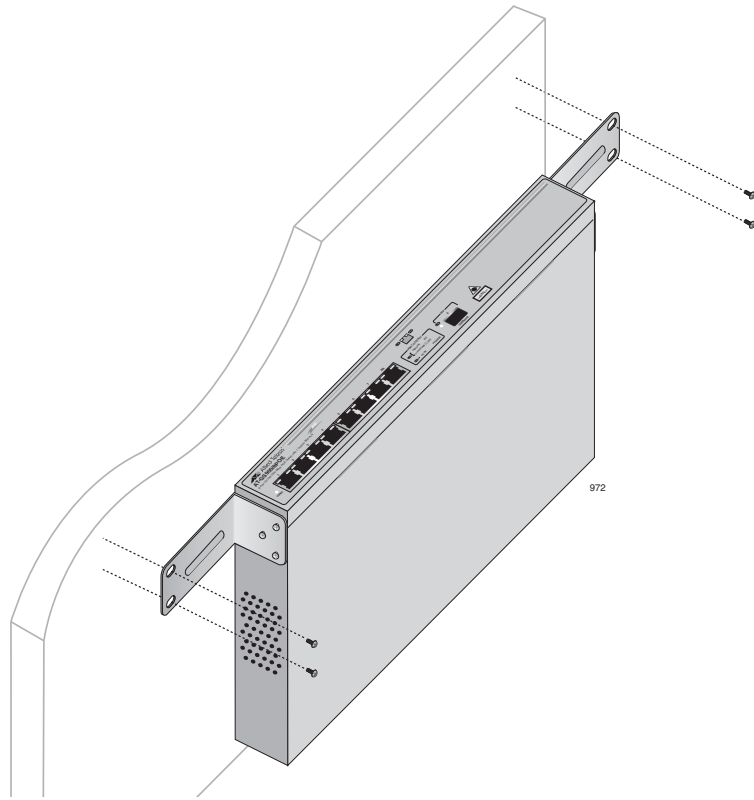

Figure 7. Mounting the Switch on the Wall
5. Mount the switch on the wall using the wall mounting screws (not provided), as shown in Figure 7.